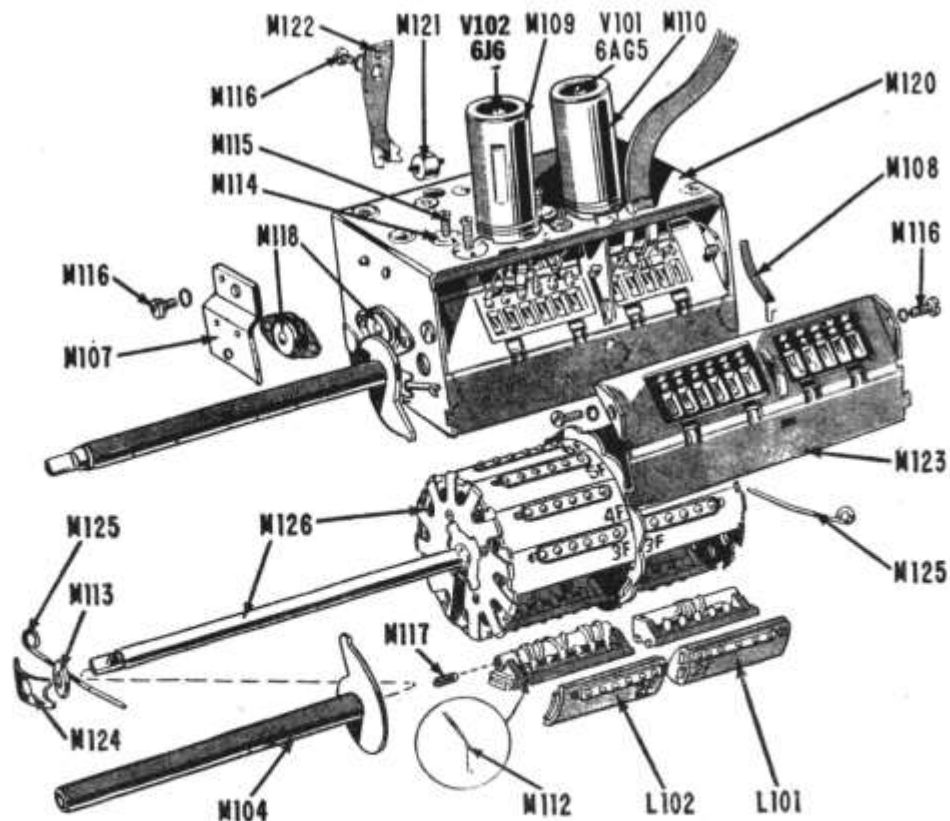

Figure 80. TV Tuner 94C21-2, Exploded View.
The most noticeable identifying feature of the 94C21-2 Tuner is the individual channel coils. The coils on the 94C21-2 Tuner are stamped 2F, 3F, 4F, etc. and the coil contacts are mounted on a "raised" portion on the surface of the coil. See Figure 80.
If HF oscillator slugs M177 "fall into" coil form, remove the channel coil, move the slug retaining spring M112 aside, and tap the coil assembly until the slug slips forward. Set the coil retaining spring into position; it should rest firmly against the slug. See figure 80.
- Remove retaining bracket M107 in front of the tuner. See figure 80.
- Remove the mounting screws at the front and rear of Contact Plate and Bracket Assembly. See figure 78 for 94C21-1 tuner, figure 80 for 94C21-2 tuner.